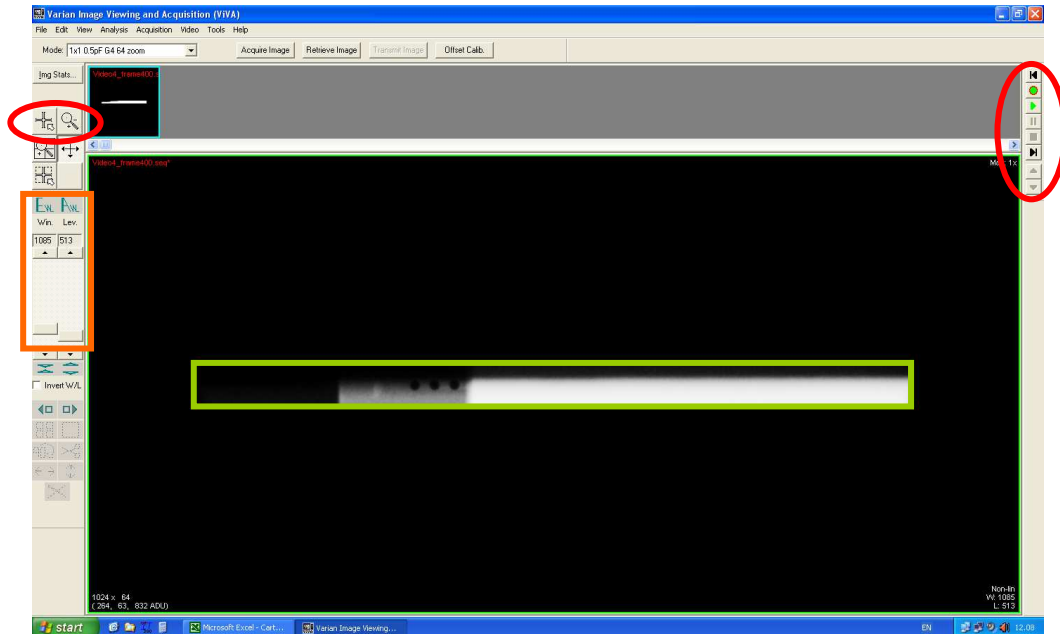

Figure 9-9
9. Review the acquisition sequence pressing the key "play" (green triangle on the right side of the monitor) and stop the image when you see the white frames. Optimize the image selecting "Aw1" in the left side of the monitor (Figure 9-9) and adjust brightness and contrast with the cursors. It is also possible to select the zoom to enlarge the image in order to easier read the position. The center of the image is to 32 pixels from both sides of the window.